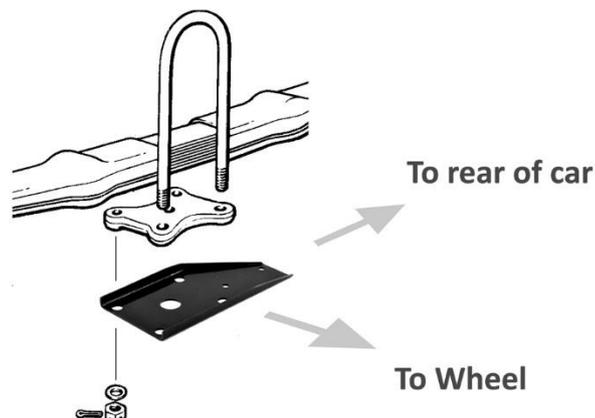

Fig. 1 Fixing the Axle Brackets
- a) The two axle plates are fitted as shown in Fig. 1.